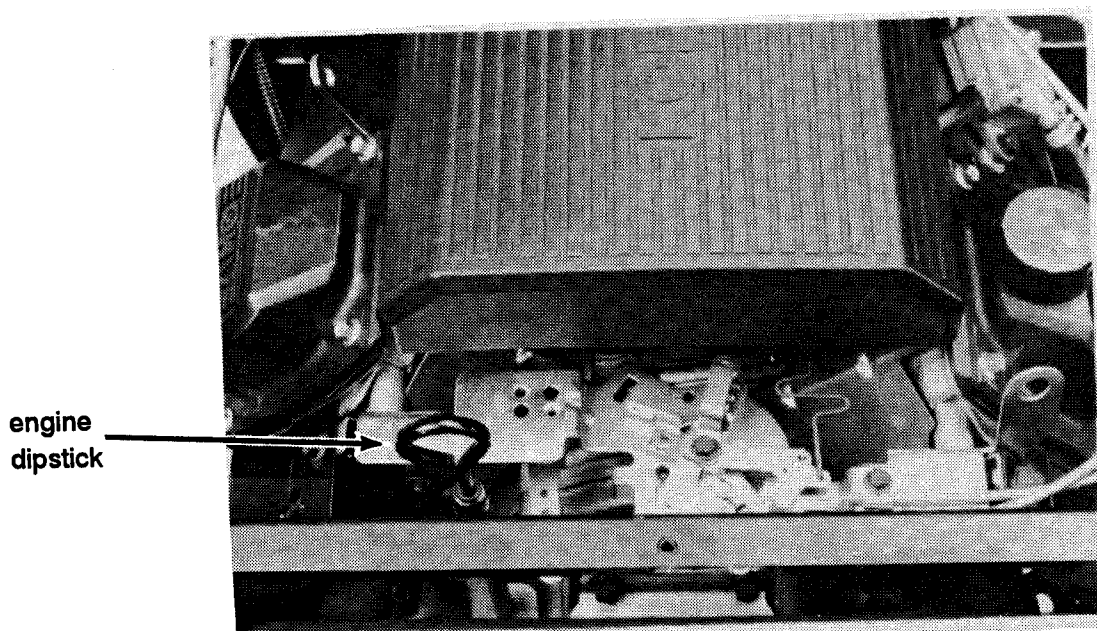

Figure 14. Engine dipstick.
1. Pull dipstick (Refer to Figure 14) completely out of the crankcase. Wipe off oil. Reinsert dipstick completely.